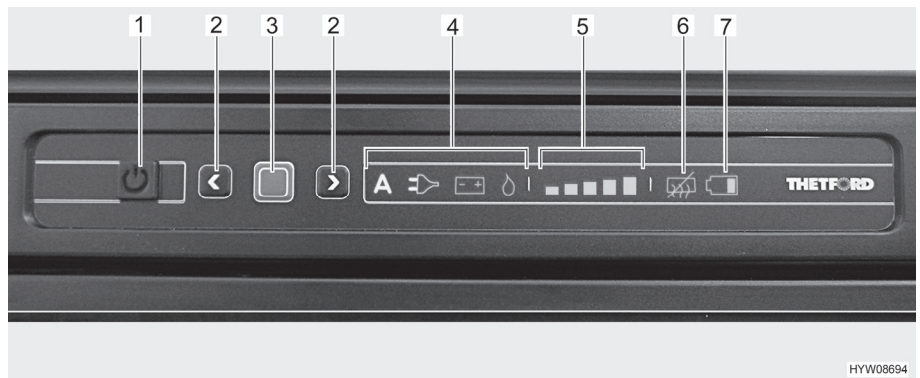

Fig. 185 LED operating panel (Thetford refrigerator)
- Press and hold the On/Off button (Fig. 185,1) for 1 second. The button lights up green. To save energy, after approximately 10 seconds the display is dimmed.
- Press confirmation button (Fig. 185,3). The operating mode previously selected is displayed.
- Press and hold the confirmation button (Fig. 185,3) for about 2 seconds. The operating mode symbols flash.
- Manual power selection: use the arrow keys (Fig. 185,2) to select the desired energy source.
- Automatic power selection (only version with automatic power selection): use the arrow keys (Fig. 185,2) to select the operating mode "A".
- Confirm your selection with the confirmation button (Fig. 185,3).
- Press confirmation button (Fig. 185,3) again. The cooling level indicator (Fig. 185,5) flashes.
- To change the setting, press the arrow keys (Fig. 185,2) until the desired setting is displayed.
- Press and hold the On/Off button (Fig. 185,1) for about 2 seconds. All lights go out. Refrigerator is switched off.
After switching it on, the refrigerator automatically selects the previously selected thermostat position. This position can be adjusted manually by using the arrow keys (Fig. 185,2). It takes a few hours till the refrigerator reaches its normal operating temperature. When changing over to another operating mode, the thermostat setting is kept.